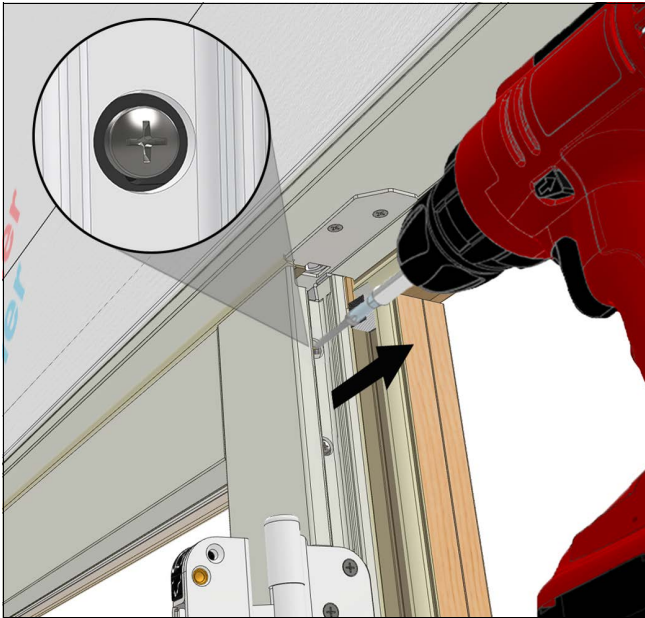

Figure 28
3. Remove one screw (pan head from each panel). See Figure 28.